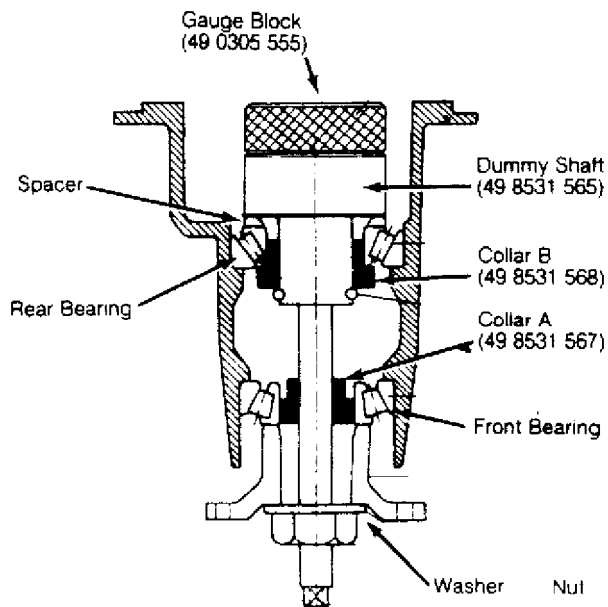

Fig. 4: Dummy Pinion Shaft and Gauge Block
1) Make sure differential bearing bores are free of dirt and burrs. Install front and rear bearing races. Install spacer, rear bearing, Collar "B" (49 8531 568) and Dummy Drive Pinion (49 8531 565) in carrier and hold in place with "O" ring. See Fig. 4.